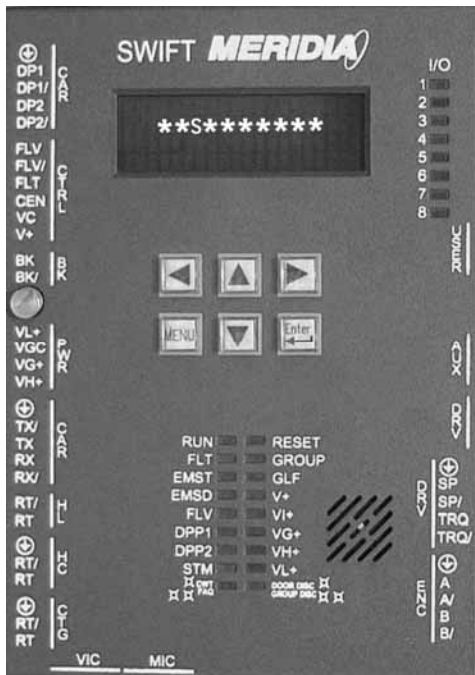

Figure 3-13
2. Verify the CCU front panel V+ LED stays lit green and display is active. [See Figure 3-13.]